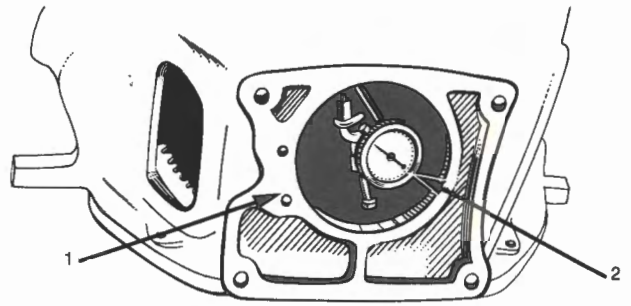

Fig. K-2
- (v) Position the dial indicator to check the housing bore. Fig. K-2.